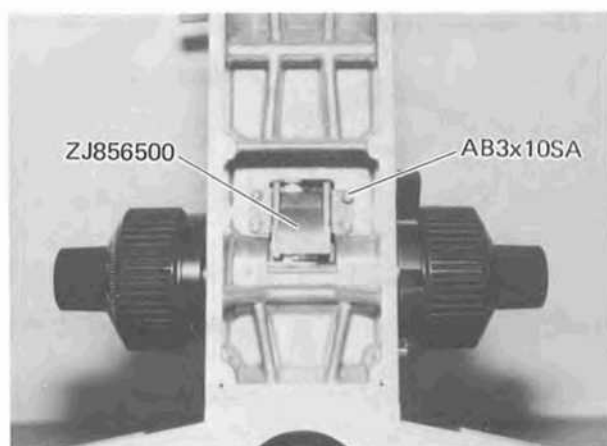

Fig. 3-6
- 3-3-2 Dismount Gear Unit ZJ856500 by removing four Screws AB3x10SA. (See Fig. 3-6.)